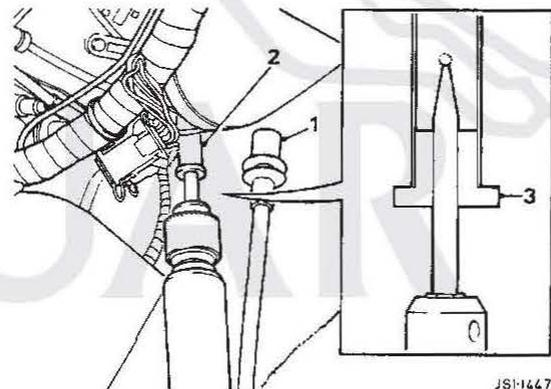

FIG. 1
5. Remove the drain tube assembly (1 Fig. 1) from the air con drain stub pipe (2 Fig. 1).
6. Fully seat the cutting tool guide to the air con stub pipe (3 Fig 1).